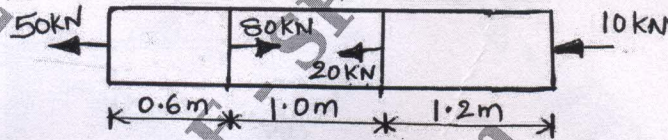

Fig. Q1 (c)
- c. A brass bar having cross sectional area of 1000 mm², is subjected to axial forces shown in Fig. Q1 (c). Find the total elongation of the bar. Take E = 100 GN/m². (10 Marks)